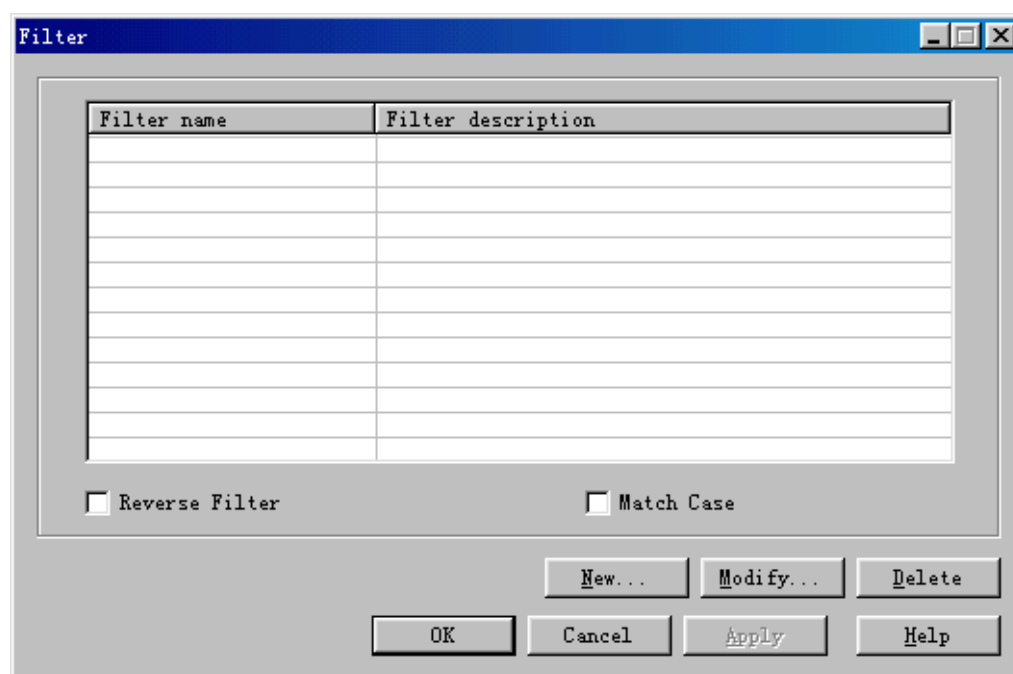

Figure 8-6 Filter dialog box
- 2) Click **New...** in the **Filter** dialog box as shown in Figure 8-6.